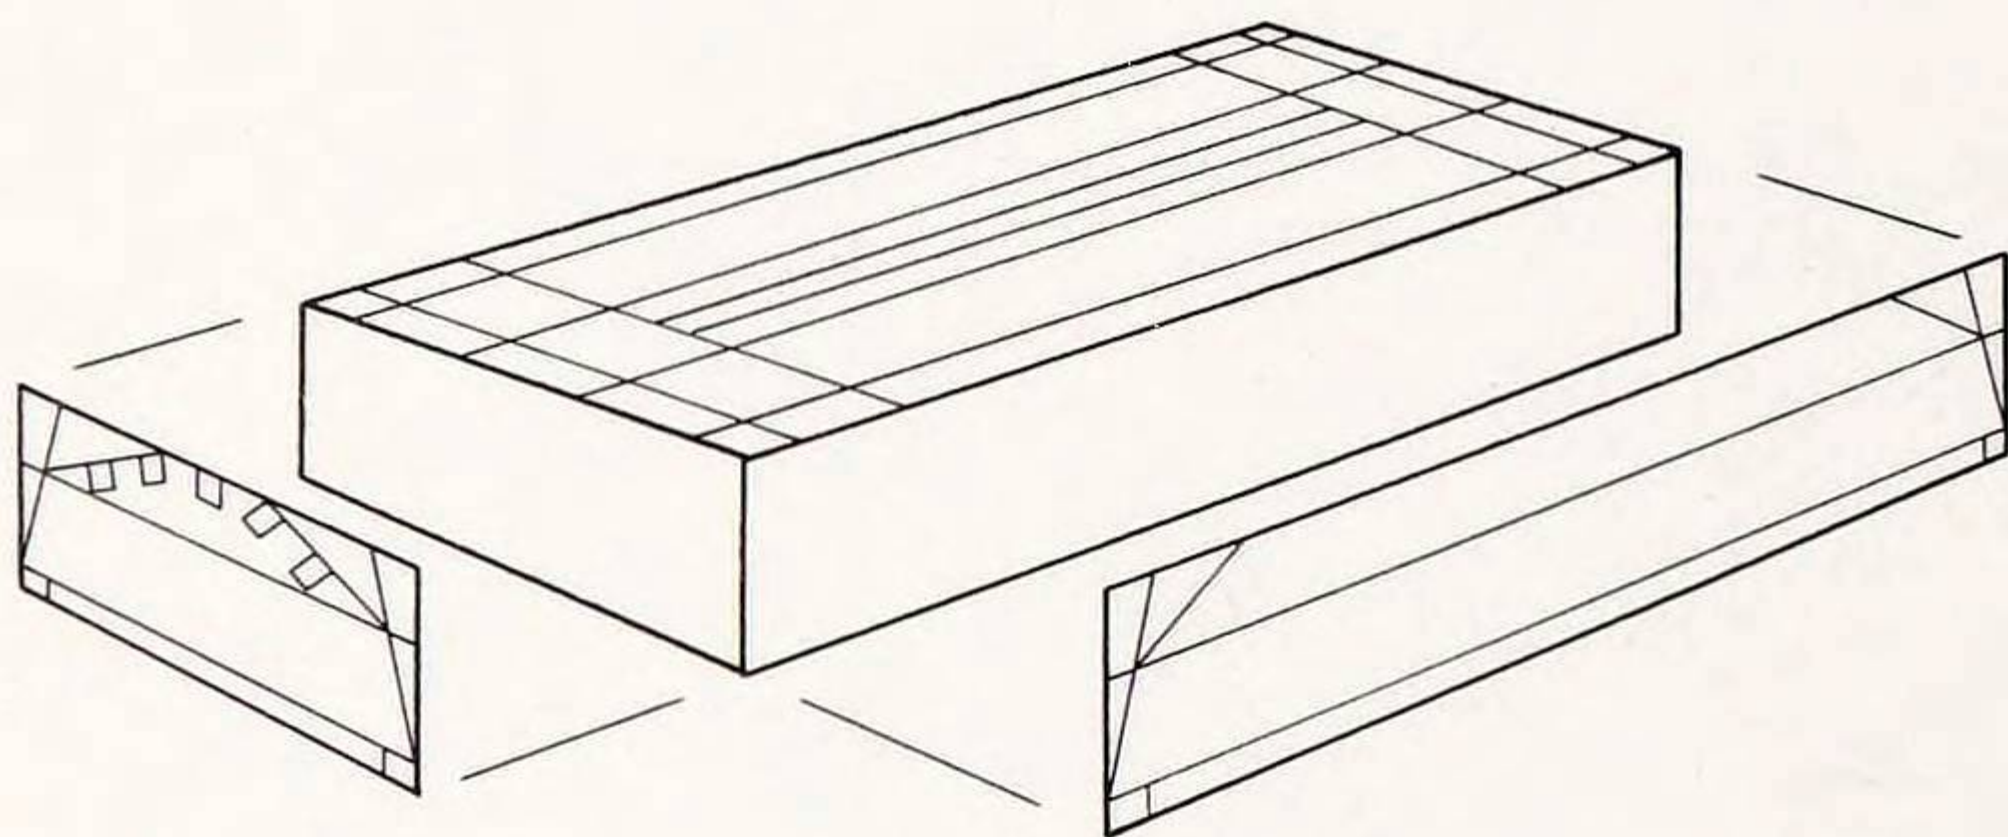

Fig. 1 The rectangular block marked out with angles and grooves
1. To make the base, saw and plane the timber to a rectangular block and mark out the angles and grooves (Fig. 1).